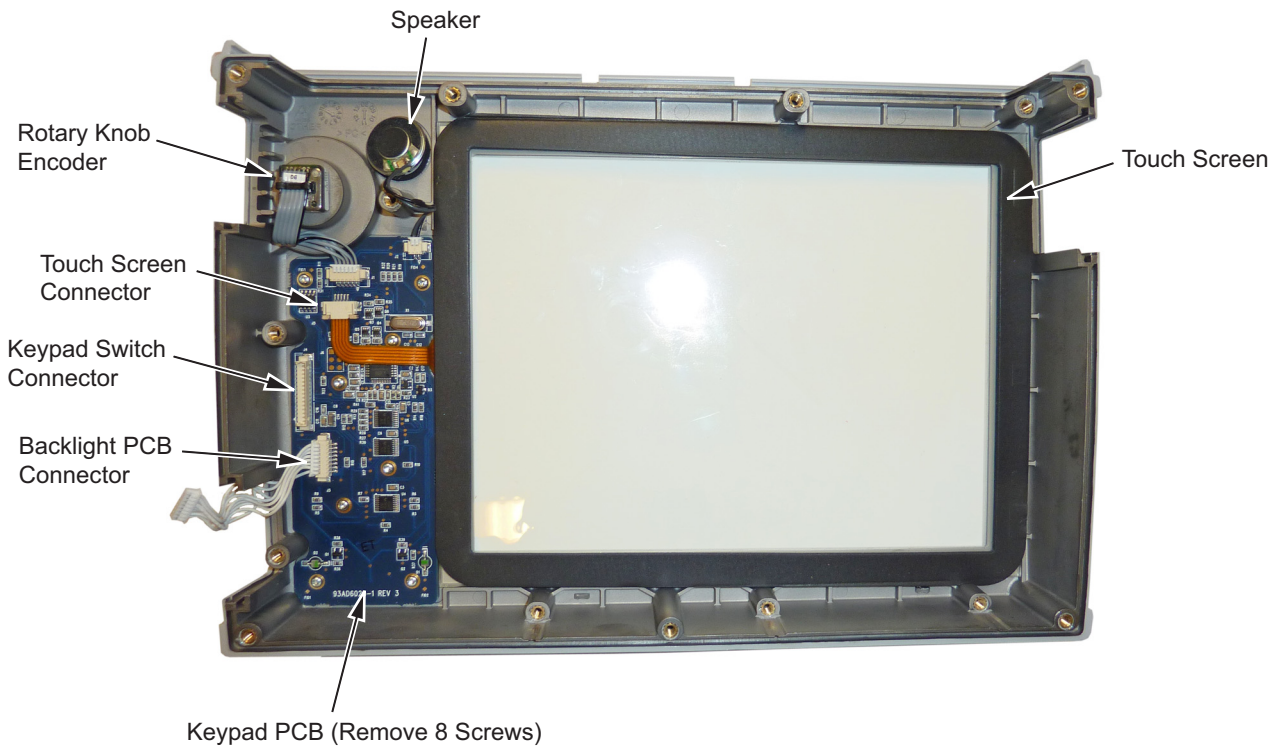

Figure 7-14. Front Panel Keypad Bezel
4. Remove the 8 screws and the cable connectors to remove the Keypad PCB (Figure 7-14). The Rubber Keypad is located under the Keypad PCB.